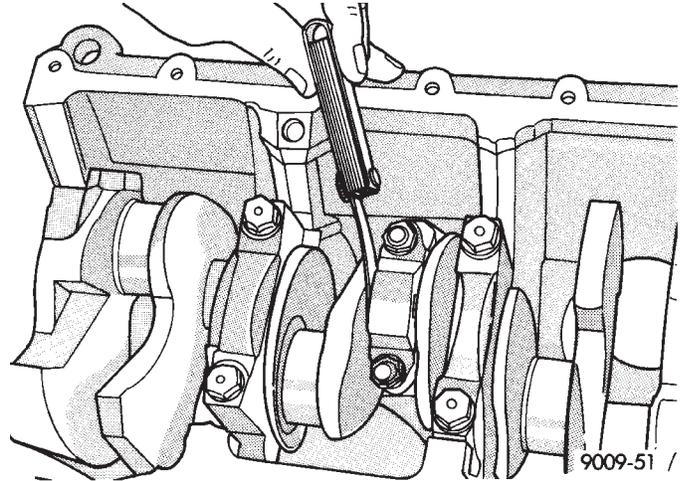

Fig. 17 Checking Connecting Rod Side Clearance
(2) Before installing the nuts the threads should be oiled with engine oil.
(3) Install nuts on each bolt finger tight then alternately torque each nut to assemble the cap properly.
(4) Tighten the nuts to 54 N·m PLUS 1/4 turn (40 ft. lbs. PLUS 1/4 turn).
(5) Using a feeler gauge, check connecting rod side clearance (Fig. 17). Refer to (Fig. 18) for specifications.